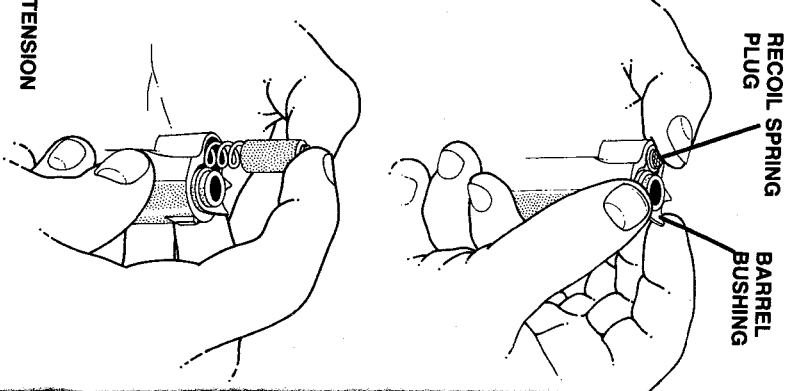

FIGURE 7—
6. With muzzle pointing upward, press down on recoil spring plug (located just below muzzle) and at same time rotate barrel bushing clockwise about 1/4 turn; this will free plug and recoil spring. Keep pressure on plug to prevent it being ejected violently by the spring, then allow plug and spring to gradually extend out of the slide (See Figure 7).